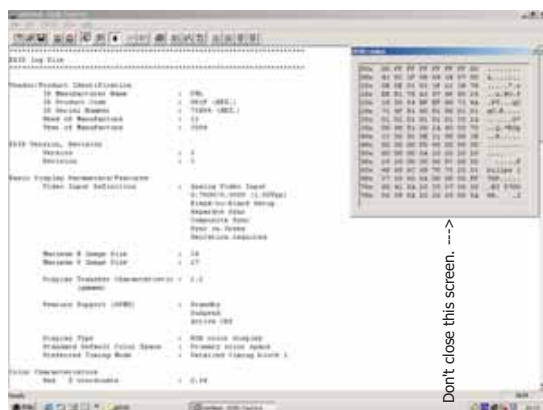

Fig. 12
4. Click  icon (Read EDID function) to read DDC EDID data from monitor. The EDID codes will display on screen as shown in Fig. 12.